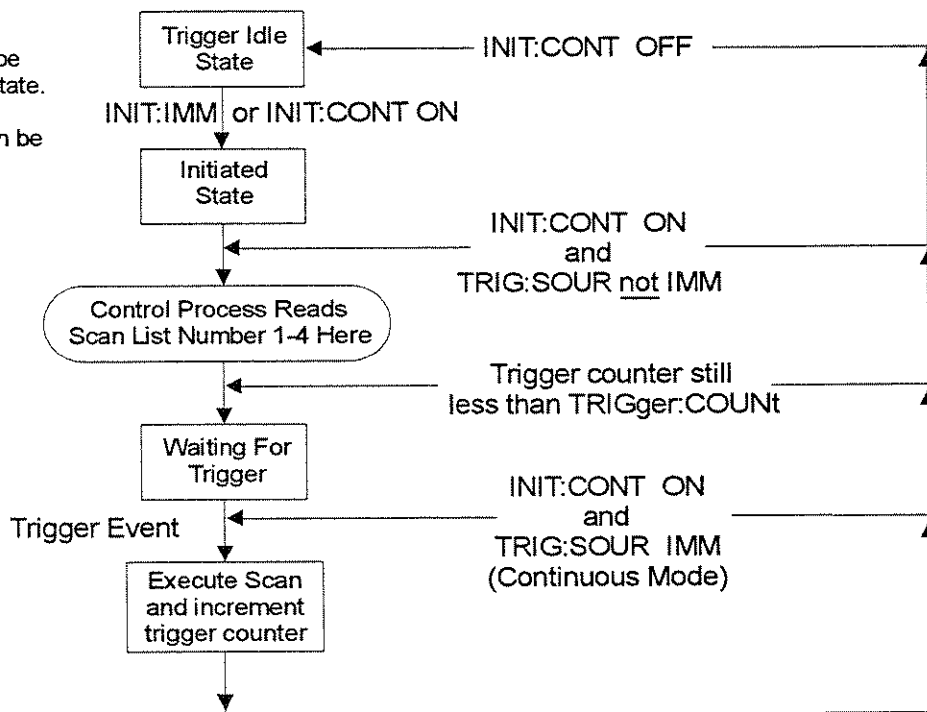

Figure 5-3. Event Sequence for ROUTe:SCAN
- Normally, the specified scan list number becomes effective when the Trigger System moves from the Initiated State to the Wait-for-Trigger State. If ROUTE:SCAN LIST1-LIST4 is executed after this point, it will become effective for the next scan. If INITIATE:CONTINUOUS is ON and TRIGGER:SOURCE is IMMEDIATE, ROUTE:SCAN will generate an error. Refer to Figure 5-3 for scanning event sequence.